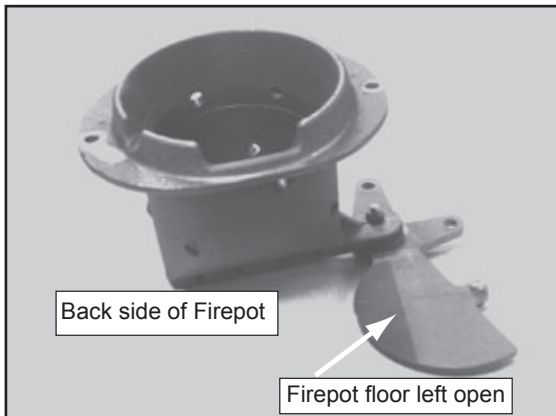

Figure 13.1
- c. The fire pot floor plate must be fully closed when finished. **Figure 13.1.**